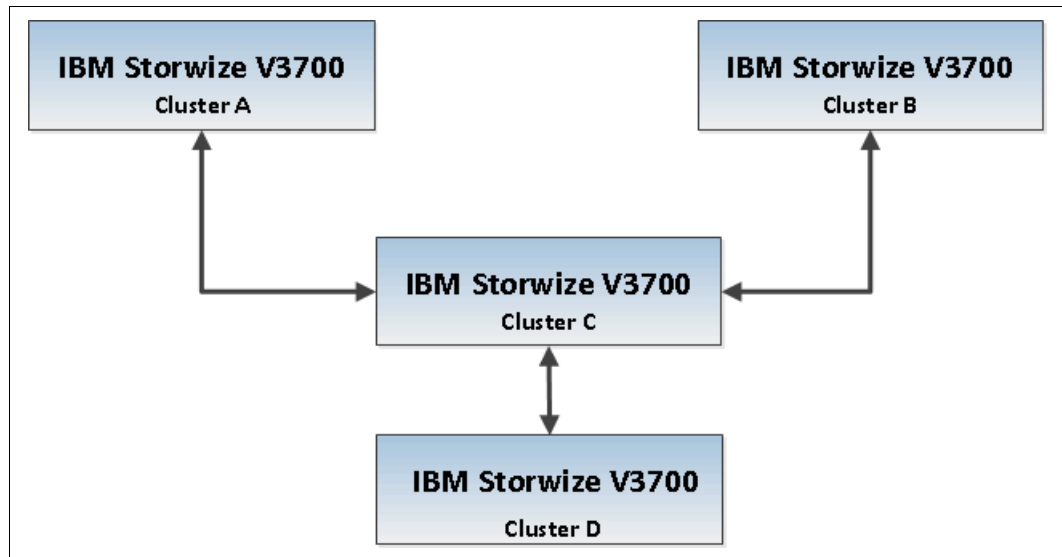

Figure 10-74 Star topology for IBM Storwize V3700
- ▶ Star topology, as shown in Figure 10-74.